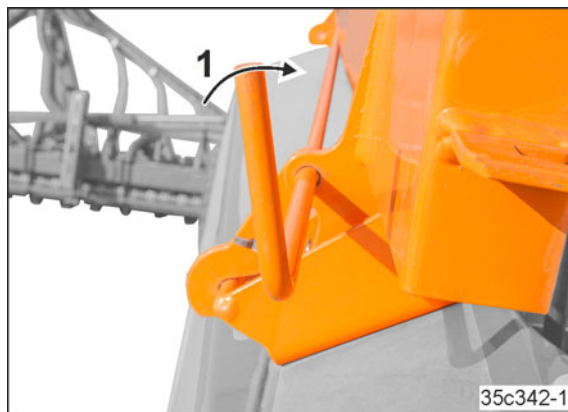

Fig. 258
1. Release the cover lock (Fig. 258/1)